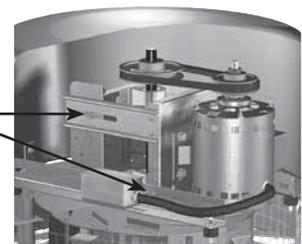

Figure 11
9. **For GB units:** Belt tension can be adjusted by loosening four fasteners on the drive frame, see Figure 11. The motor plate slides on the slotted adjusting arms and drive frame angles in the same manner.
10. Belt tension can be adjusted by loosening four fasteners on the drive frame, see Figure 11. The motor plate slides on the slotted adjusting arms and drive frame angles in the same manner.